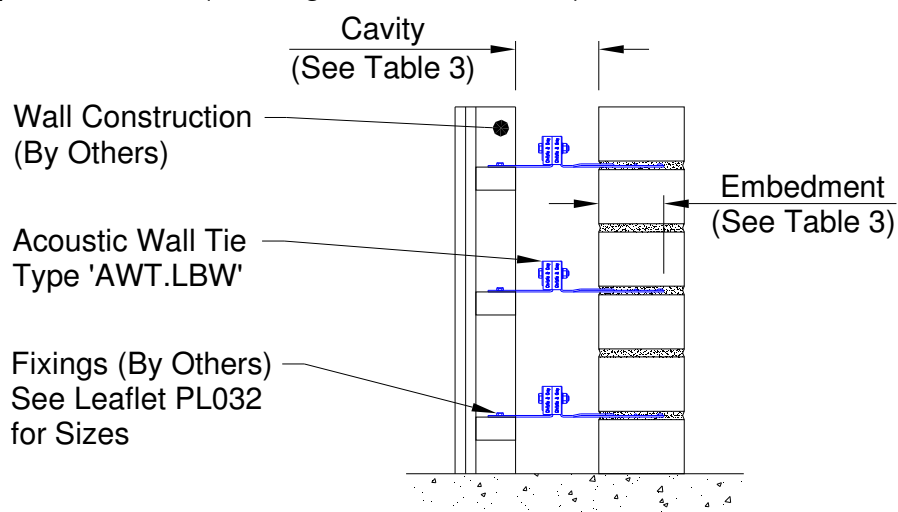

Figure 3
- b). Alternative fixing for brick/blockwork to cross bracing of inner partition walls using acoustic wall tie type AWT.LBW (See Figure 3 and Table 3).